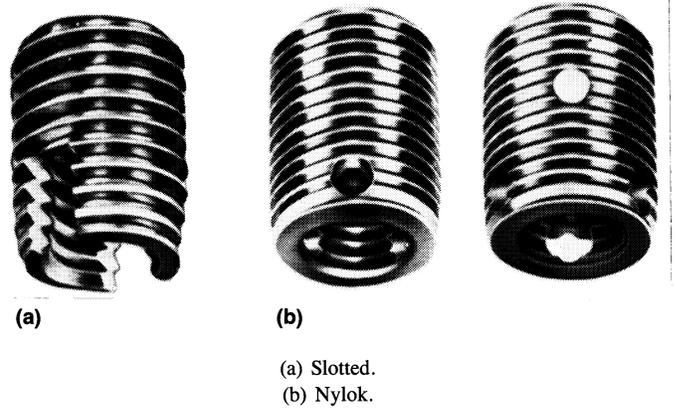

Figure 19.—Self-tapping inserts.
**Self-tapping.**—Most of the self-tapping inserts are the solid bushing type made with a tapered external thread similar to a self-tapping screw (fig. 19). There are several different
locking combinations, such as the Nylok plug (fig. 19(b)) or the thread-forming Speedsert11 deformed thread (fig. 20). An additional advantage of the thread-forming insert is that it generates no cutting chips, since it does not cut the threads. However, it can only be used in softer materials.